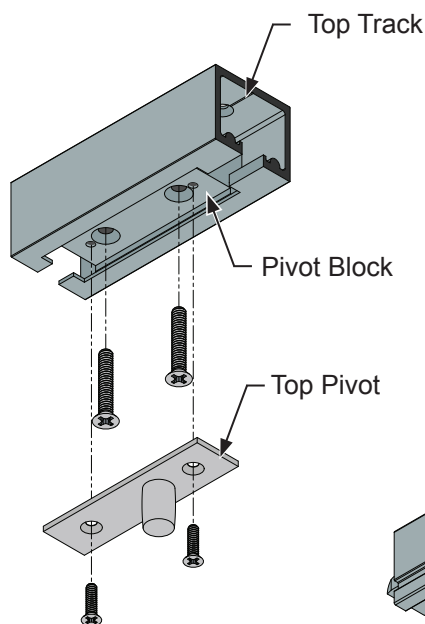

Fig. 1
1. The top track assembly is packed complete with top pivot, pivot block, and door support blocks installed. Remove the top pivot(s) from the pivot block(s). This will expose the temporary screws holding the pivot blocks to the top track. Remove these screws and discard them. **(Fig. 1)**